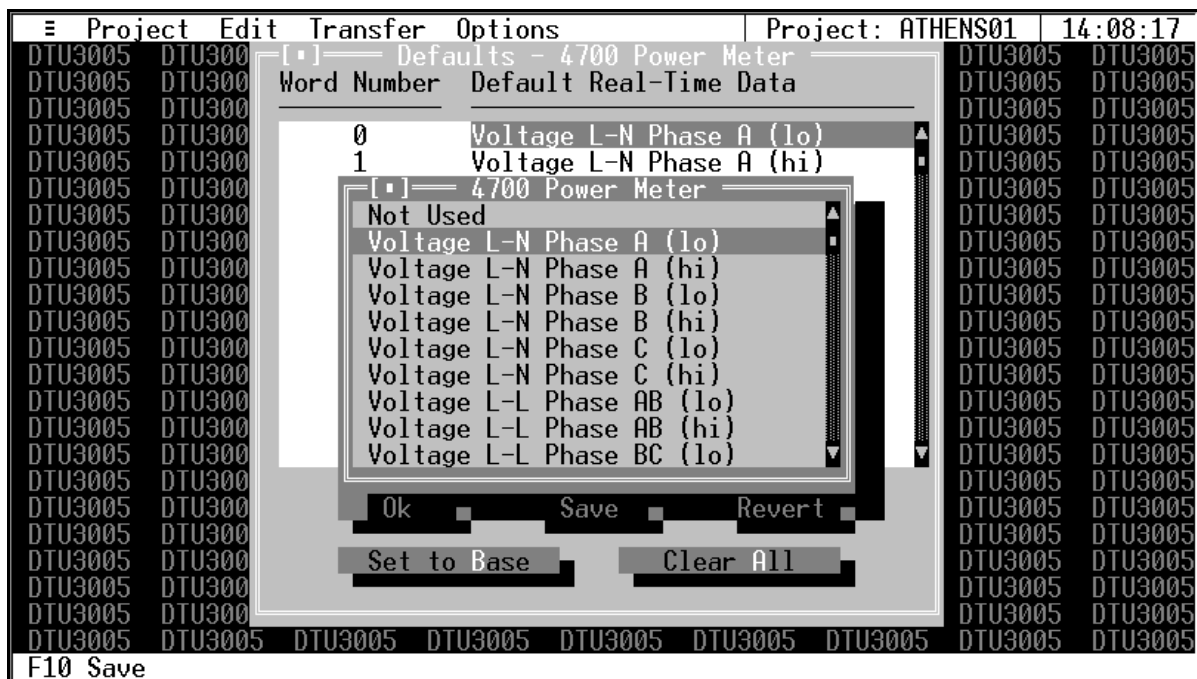

Figure 4.11 Default Custom Data Item Selection
3. Select a data item and press **Enter** to see a list of device real time data that can be assigned to that data word (see **Figure 4.11**). Select **Not Used** if you do not want that data word to be used. Not all of the entries are visible on the menu. Use the scroll bar or the **Page Up** and **Page Down** keys to view all of the entries. Select **Clear All** to set all data words to "Not Used." Select **Set to Base** to create a new base default for 16 registers for SEABus devices (64 for VDEW devices) from the device's standard data register list.